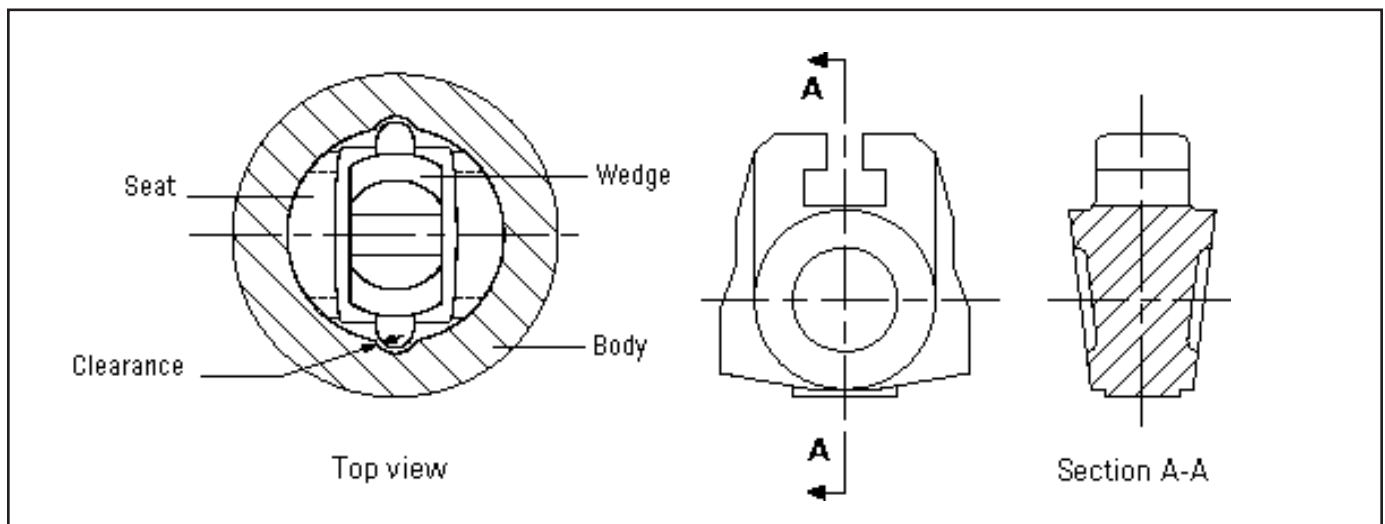

Figure 6.1B Gate valve wedge
4. When fitting a wedge, it is also important that the wedge guide slots have sufficient clearance to allow the wedge to move freely along the wedge guides, as shown in *Figure 6.1B (top view)*. Otherwise the wedge may be prevented from making full contact with seats.